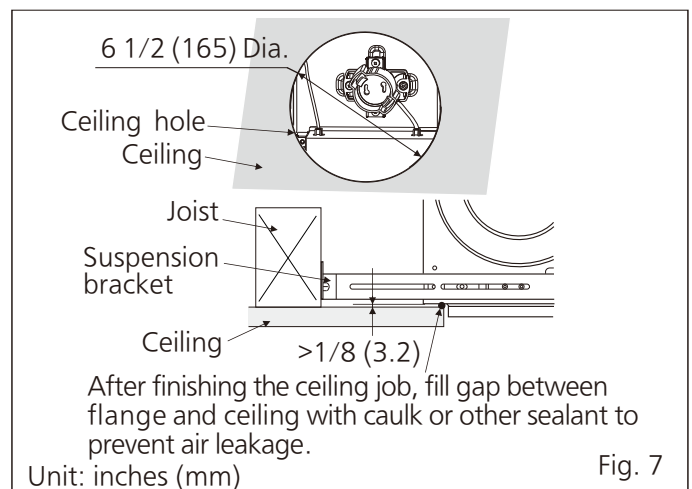

Fig. 7
11. Finish ceiling work. A circle ceiling hole (6 1/2 inches (165mm) dia.) should be cut. And make sure there will be a gap (>1/8 inches (3.2mm)) between bottom of fan body and ceiling. (Fig. 7)